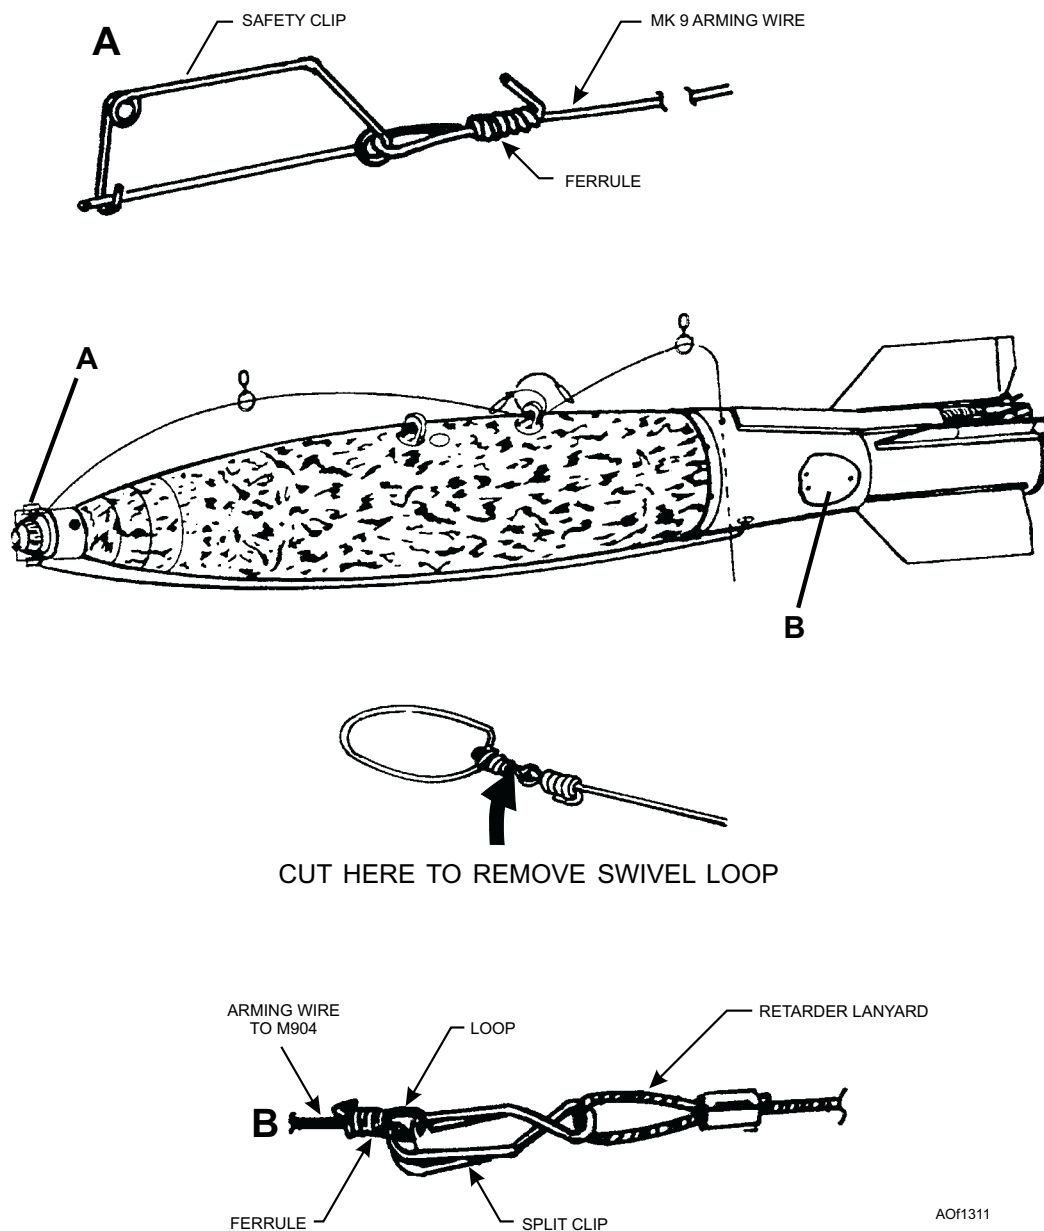

Figure 13-11.—Arming wire and split clip installation.
7. Attach the split clip to the arming wire swivel, route the arming wire through the bottom arming wire hole, and then route forward (fig. 13-11).